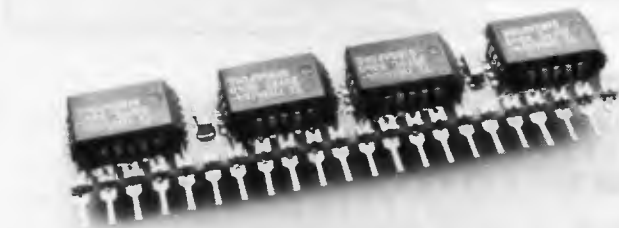

FIG. 2—SMT CAN REDUCE the area of circuit boards. This small Texas Instruments' memory module is made from four SMT 64K × 1 RAM's and four chip capacitors.
- **Reduced Circuit-Board Size**—The compact size of Surface-Mountable Components (SMC's) can substantially reduce the area of circuit boards. Figure 2, for example, shows a miniature Texas Instruments SIP (Single In-line Package) 64K × 4 memory module made from four 64K × 1 RAM's and four chip capacitors.